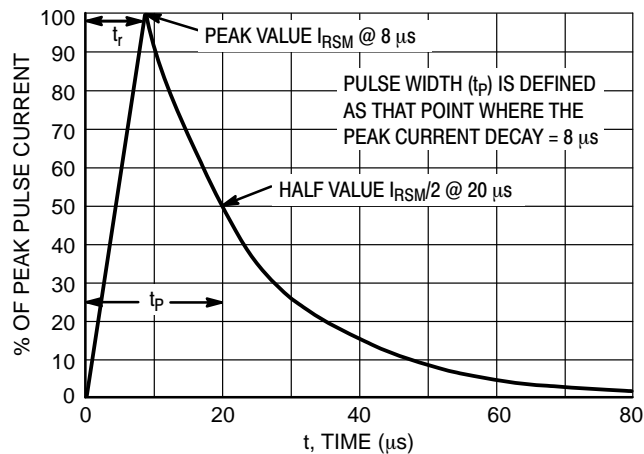

Figure 12. 8 X 20 μ s Pulse Waveform
- Non-repetitive current pulse at T_A = 25°C, per IEC61000-4-5 waveform. (See Figure 12)